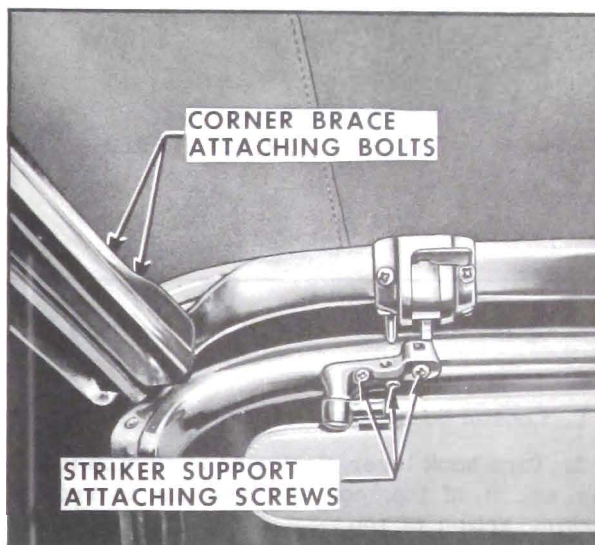

Figure 7-18—Front Roof Rail Adjustment
2. Loosen corner brace attaching bolts (Figure 7-18) and adjust front roof rail fore or aft as required. Repeat on opposite side if necessary.
2. Loosen striker support attaching screws (Figure 7-18) and adjust striker as required; then tighten attaching screws.